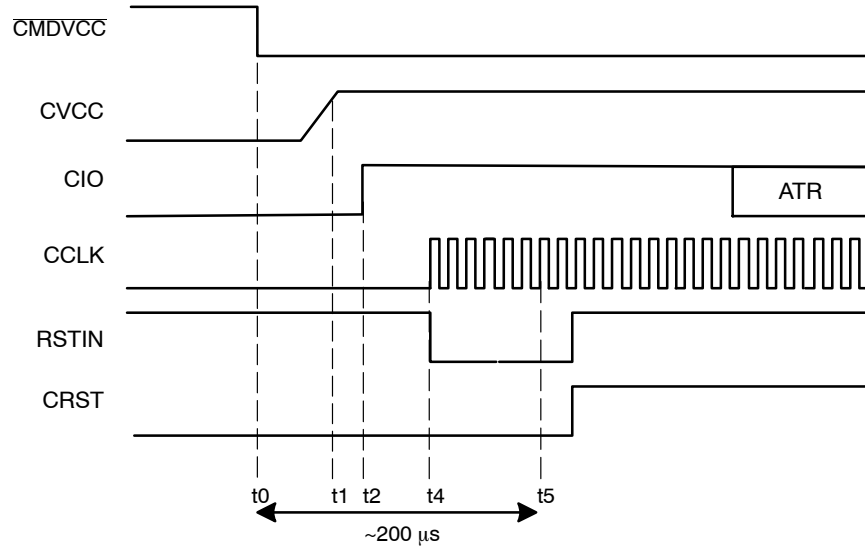

Figure 5. Activation Sequence – RSTIN Mode (RSTIN Starting High)
The clock can also be applied to the card using a **RSTIN mode** allowing controlling the clock starting by setting RSTIN Low (Figure 5). Before running the activation sequence, that is before setting Low $\overline{\text{CMDVCC}}$ RSTIN is set High. The following sequence is applied:
- Between t₂ (Figure 5) and t₅ = 200 μs , RSTIN is reset to LOW and CCLK will start precisely at this moment allowing a precise count of clock cycles before toggling CRST Low to High for ATR (Answer To Reset) request.